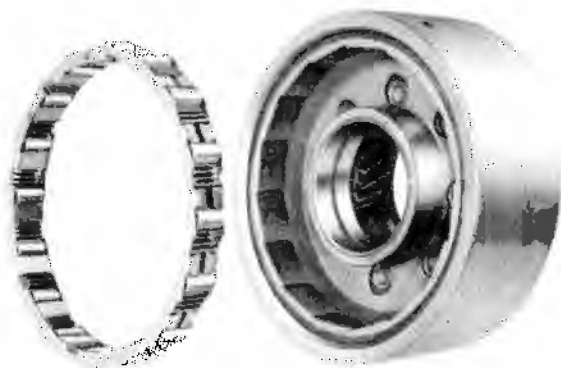

Fig. 7-111 Positioning Front Internal Gear Ring
(9) Reposition and support components thus far assembled so that output shaft extends downward.
(10) Install reaction carrier-to-output carrier thrust washer on output carrier, with tabs of washer faced downward into corresponding pockets of carrier and retain with petroleum jelly.
(11) Insert sun gear into output carrier, splines with chamfer downward, so that it meshes with planet gears.
(12) Insert rear spline of (long spline) sun gear shaft into spline of sun gear.
(13) Position front internal gear ring on output carrier, as shown in fig. 7-111, then install reaction carrier assembly on output carrier and ring, so that planet gears of carrier mesh with sun gear (fig. 7-112).